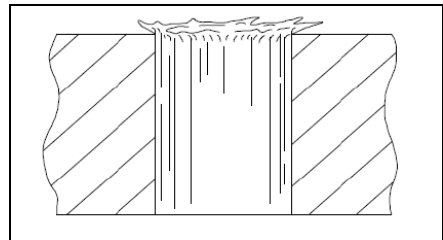

Figure 4 Sliver Burr
- b. Sliver Burr (see Figure 4):